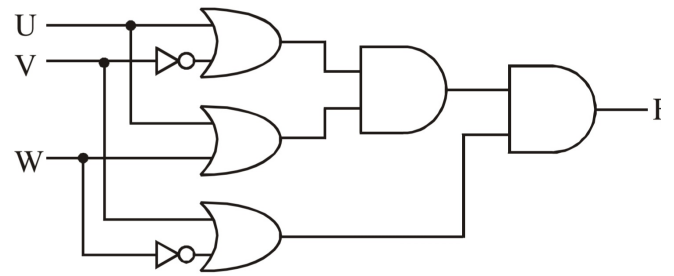

Fig. 3.3
7. Write the Boolean Expression for the result of the Logic Circuit as shown in Fig. 3.3 (CBSE 2016)